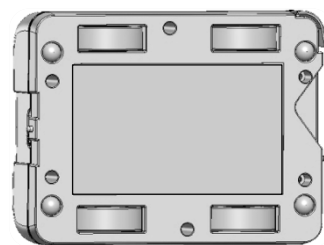

Figure 3
- Step 4: Orient Drive Unit as Figure 3, left and right pairs of tires change direction of rotation. While using a damp cloth press along each moving tires surface.